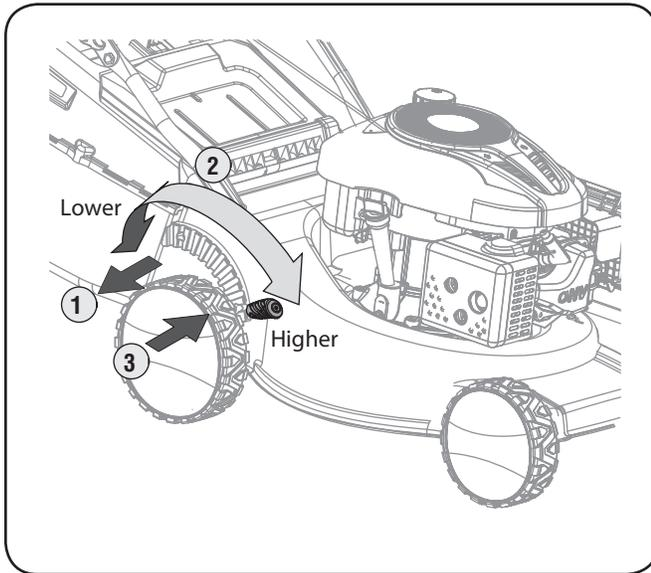

Figure 3-9
2. Move lever to desired position for a change in cutting height. See Fig. 3-9.